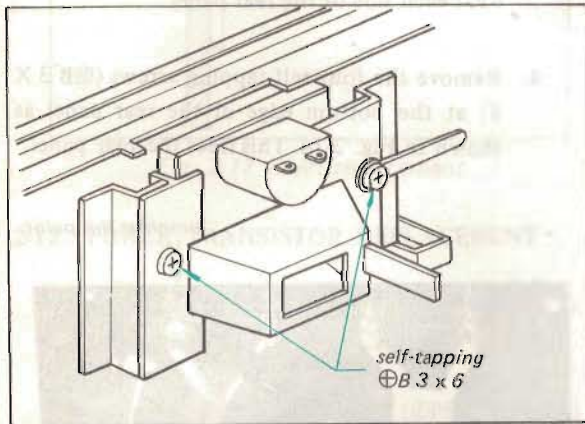

Fig. 2-12 Meter holder removal
1. Remove the two self-tapping screws ( $\oplus B 3 \times 6$ ) securing the meter holder to the front subchassis as shown in Fig. 2-12.
3. Remove the two self-tapping screws ( $\oplus B 3 \times 6$ ) securing the meter holder to the front subchassis as shown in Fig. 2-12.